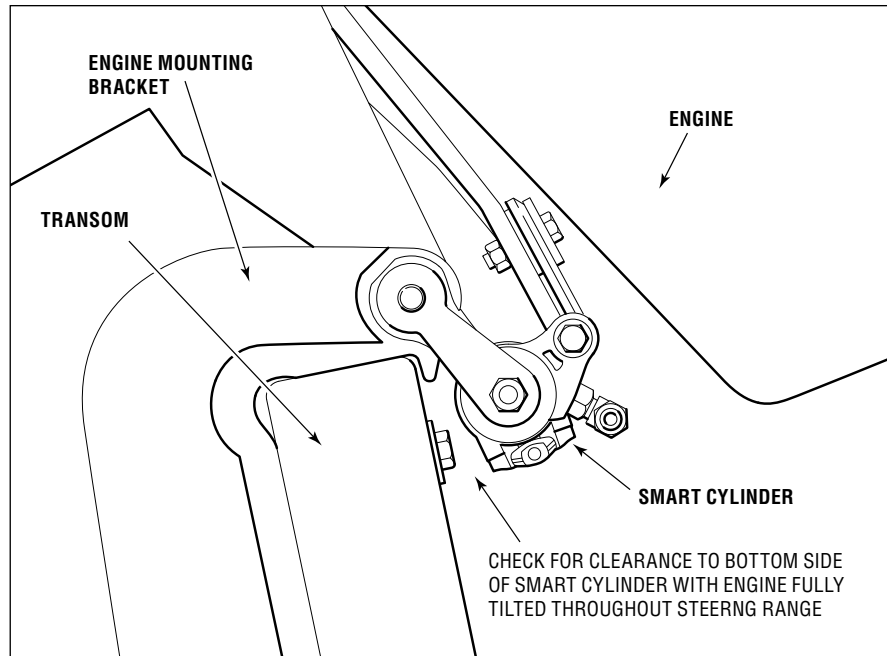
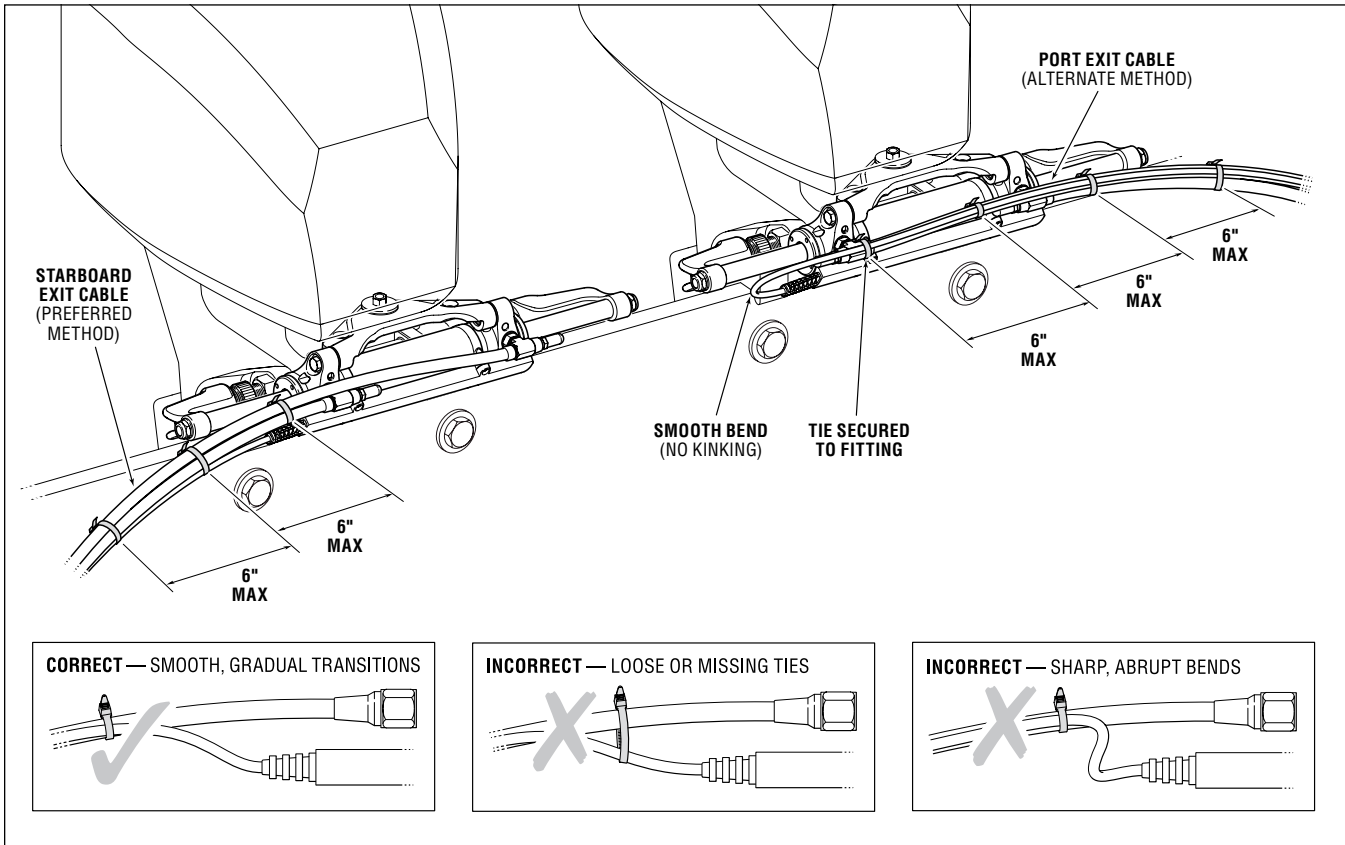

Figure 8-1. Engine side view when tilted.
Figure 8-2. Sensor cable and hose routing checks.
1. Interference Checks – Confirm that there is no interference between the steering cylinder(s), splashwell, outboard engine(s), or any combination of these parts, by performing the steps below. For each step also check that the hoses and cables are moving freely with no rubbing or binding (see figure 8-1 and figure 8-2). Be sure to steer slowly while performing these checks.
2. Sensor cable – Confirm that the SmartCylinder Sensor Cable is tied securely to the hoses with gradual bends as shown figure 8-2.